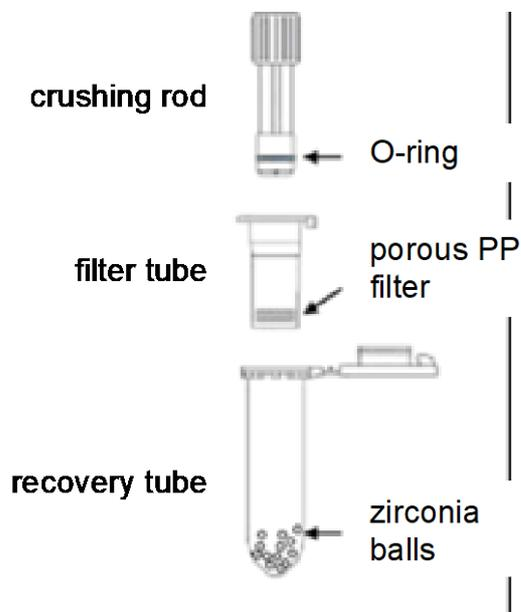

Figure 1 Biomasher® and Recovery tube
- Biomasher® (I: crushing rod, II: filter tube) (Figure 1)
- Recovery tube (with zirconia balls) (Figure 1)